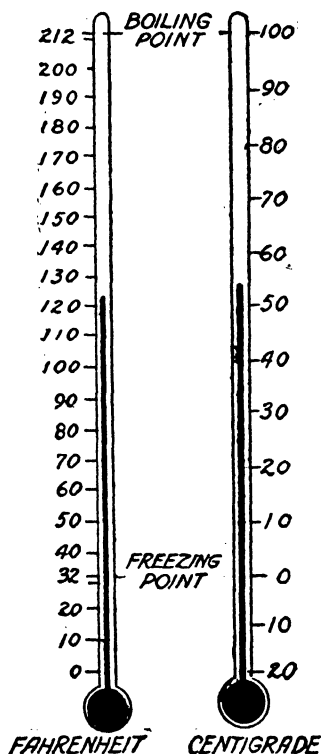

FIG. 23. FAHRENHEIT AND CENTIGRADE SCALES COMPARED
in scientific work and (2) the *Fahrenheit*, used in every day life, and both are shown in Fig. 23. The *freezing* and *boiling* points of these two scales are:—